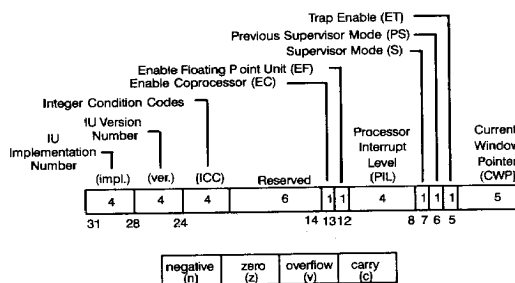

Figure 2. Processor State Register
**Processor Status Register (PSR).** The processor status register contains fields that describe and control the state of the CY7C601A (see Figure 2).